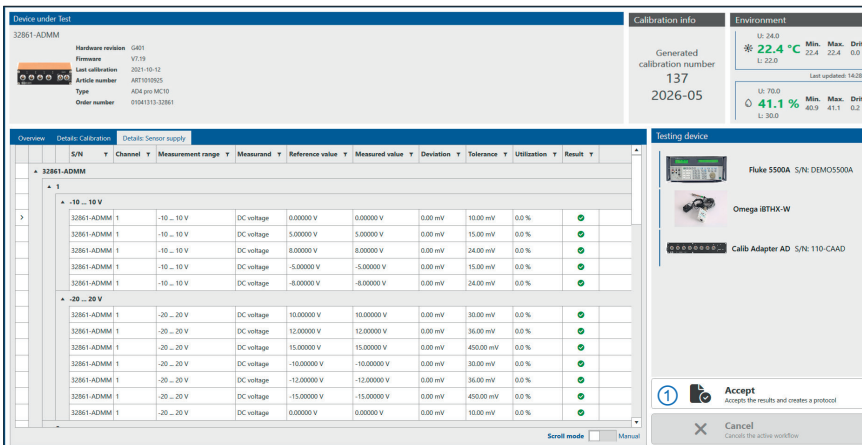

Fig. 2-18: Detailed information on the sensor supply test
- ☞ To complete the process, click on **Accept** (Fig. 2-18, ①) to create the calibration protocol.